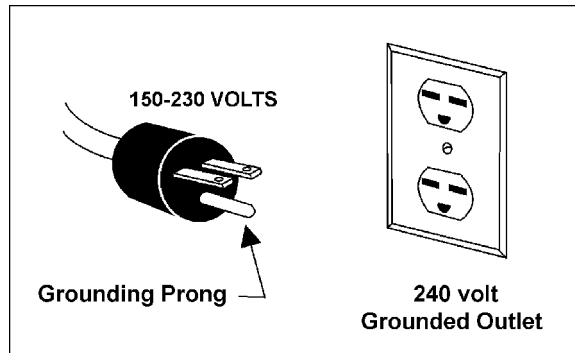

Figure 8
3. The 115V attachment plug supplied with the band saw must be replaced with a UL-listed plug suitable for 220 volt operation. The band saw must comply with all local and national codes after the 220 volt plug is installed. The band saw with a 220 volt plug should only be connected to an outlet having the same configuration (Figure 8). No adapter is available or should be used with the 220 volt plug.